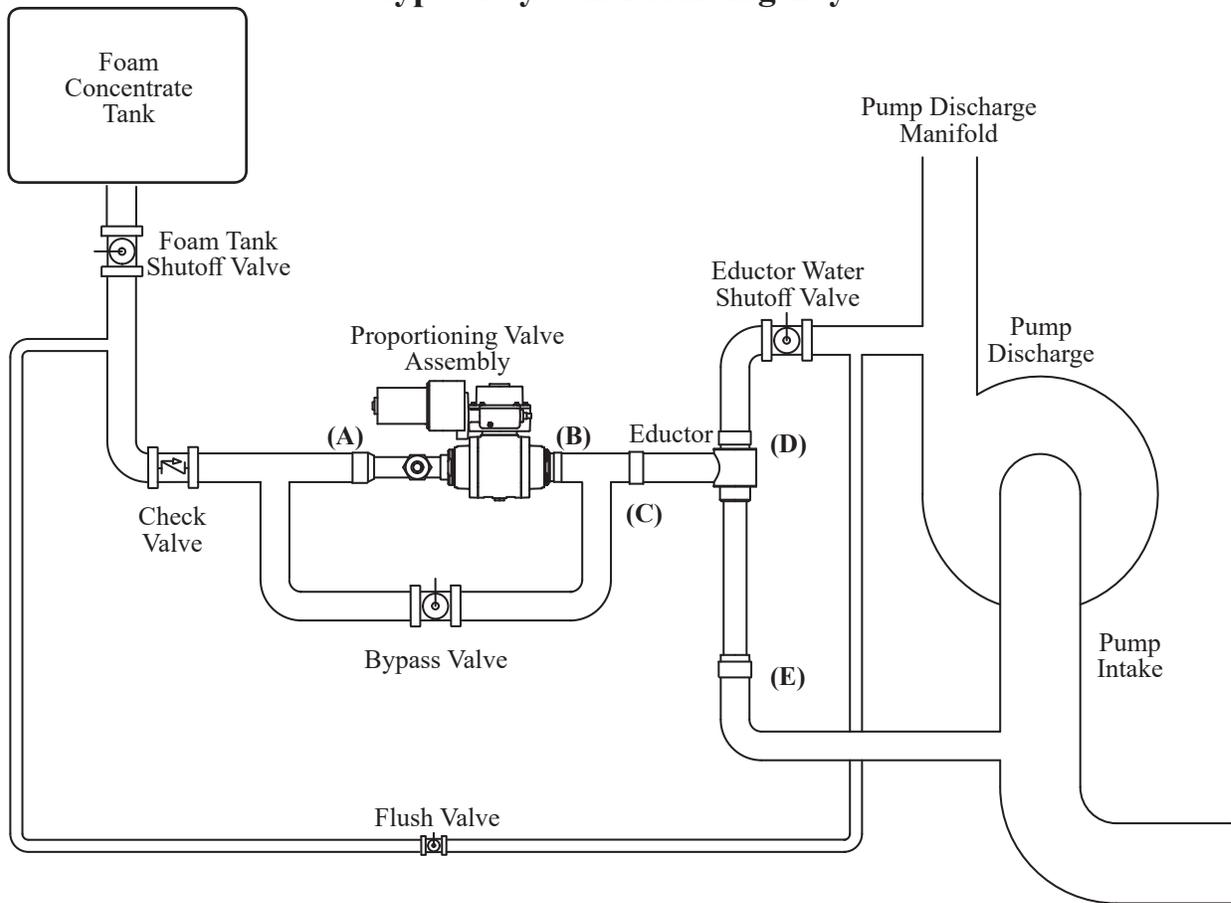

Figure 7. Proportioning Valve Assembly and Eductor
Four (4) plumbing connections must be made. (Refer to Figure 7.) Recommended diameters for interconnecting plumbing and the bypass is: